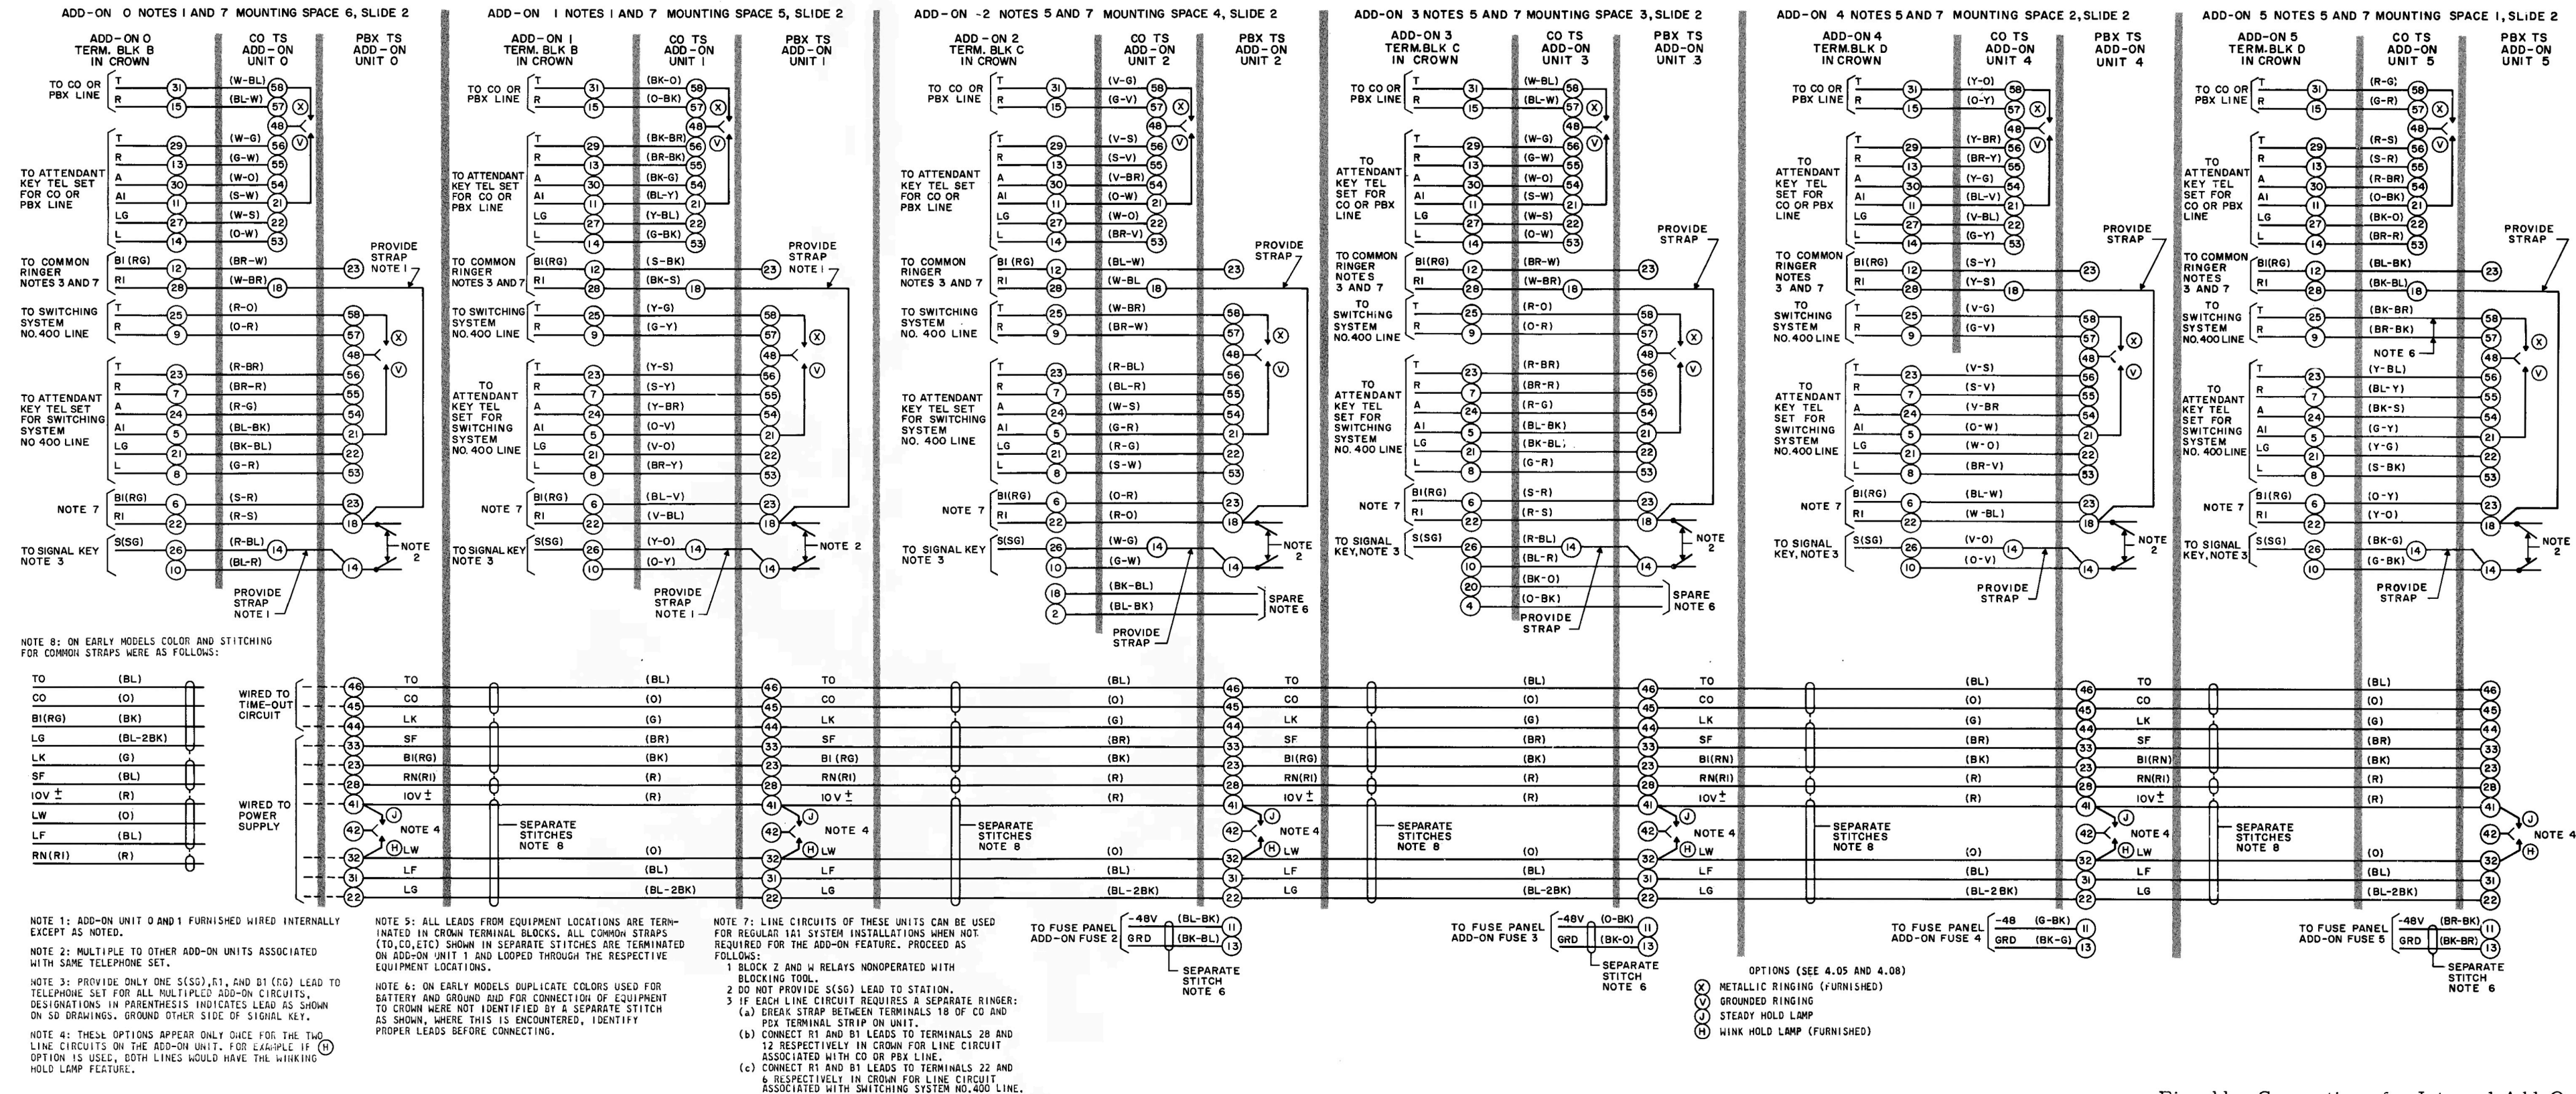

Fig. 11 - Connections for Internal Add-On Units
4.09 Fig. 11 shows the connections for add-on units 0 and 1 as furnished with each cabinet assembly. It also shows the necessary connections to be made when add-on units 2-5 are added to system. Leads for add-on units 2-5 will be found in a tube at the respective mounting plate locations. Install 70A fuses, if not provided, in fuse positions 0-5, as required, on fuse panel designated ADD-ON & K TEL. Fuse panel located on slide 1.